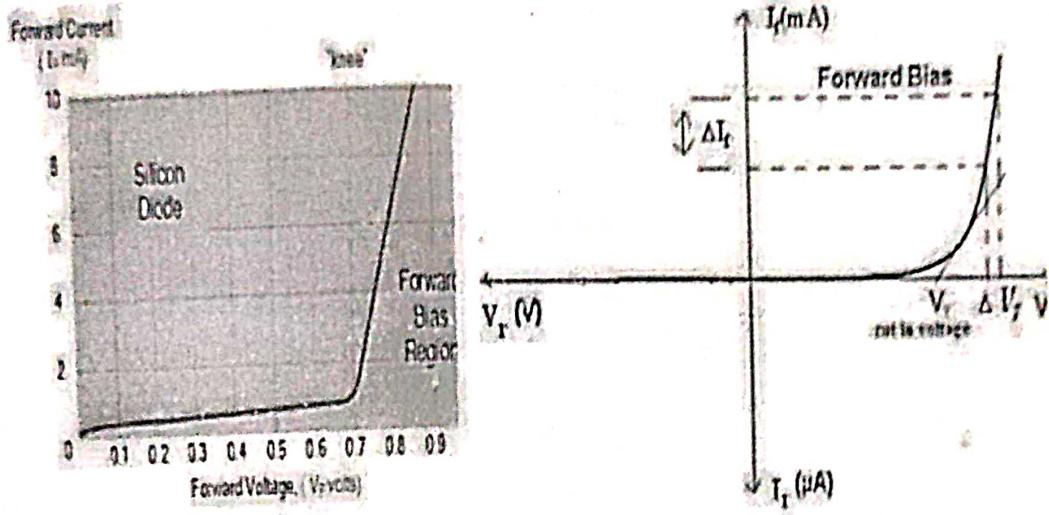

Fig. 5: VI characteristic of Forward Bias diode.
6. Plot a curve between diode voltage V_F and diode current I_F as shown in figure 5 (First quadrant) using suitable scale, with the help of Observation Table. This curve is the required forward characteristics of Si diode.